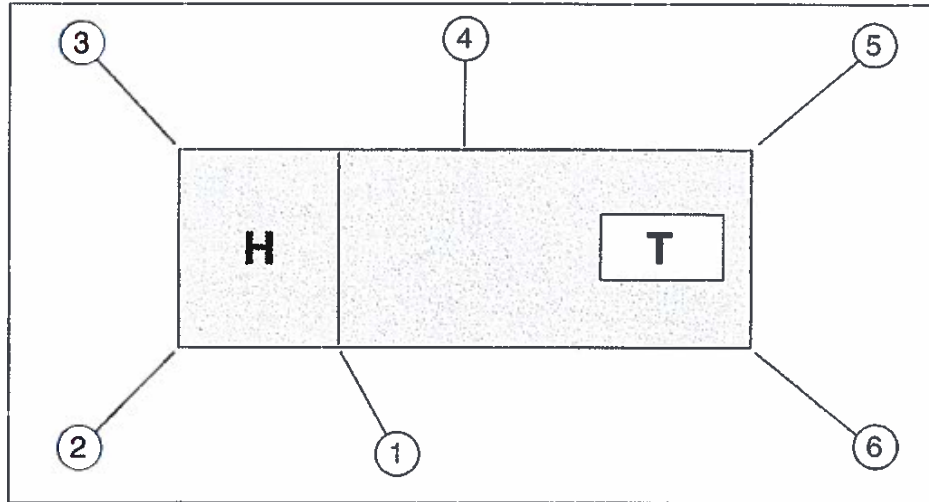

Fig.1
The maximum noise level at the operators position (Fig.1) is within 80 dB(A) and the maximum mean noise level is within 80 dB(A).